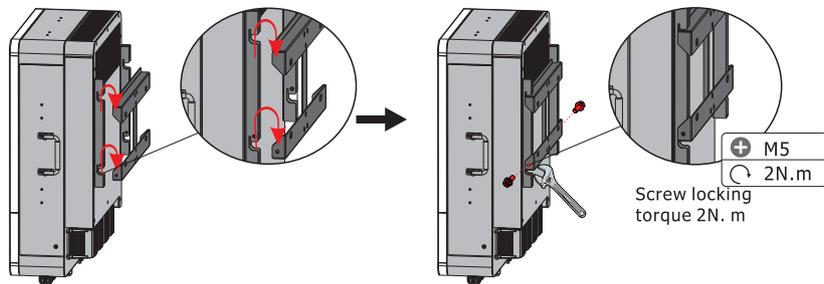

**Figure 3.4-1 Install Inverter hanging plate**
**Step 1.** Please use the mounting bracket as a template to drill 4 holes in the right positions (10mm in diameter, and 80mm in depth). Use M8 expansion bolts in accessory box and fix the mounting bracket onto the wall tightly. The installation of inverter support is shown in Figure 3.4-1.